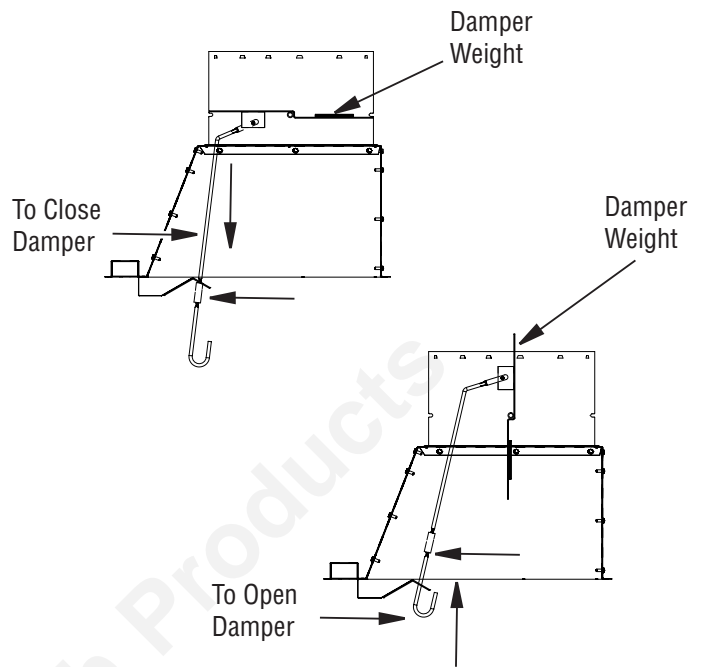

Figure 44 - Operating Damper Handle
1. To properly start a fire in a the fireplace, first check the operation of the flue damper (see "DAMPER CONTROL" and Figure 44, below).
The damper handle, which opens and closes the damper blade, is located in the upper front face of the fireplace. Pushing the handle forward and up through the keyway slot will free damper blade to automatically open. Pushing the handle forward and down will lock damper blade closed (see Figure 44). Damper must be locked in the full open position before operating fireplace (see Figure 44).